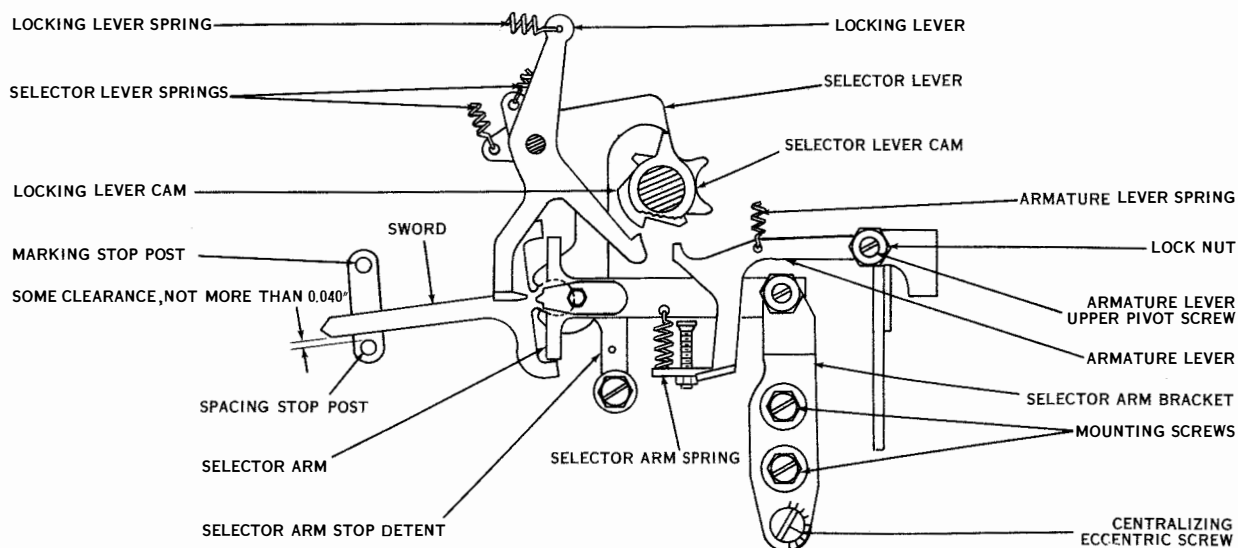

Figure 7-28. Selector Arm Bracket
(10) **SELECTOR ARM BRACKET.** (See figure 7-28.)—The selector arm bracket should be positioned to provide some clearance, not more than 0.040 inch, between each sword and either stop post.
(c) To adjust, loosen the selector arm bracket mounting screws (not more than just enough to leave the bracket friction tight) and equalize the clearance between the swords and stop posts by turning the centralizing eccentric screw (see figure 7-28). Clockwise rotation provides more clearance at the spacing stop post; counterclockwise, more clearance at the marking stop post.